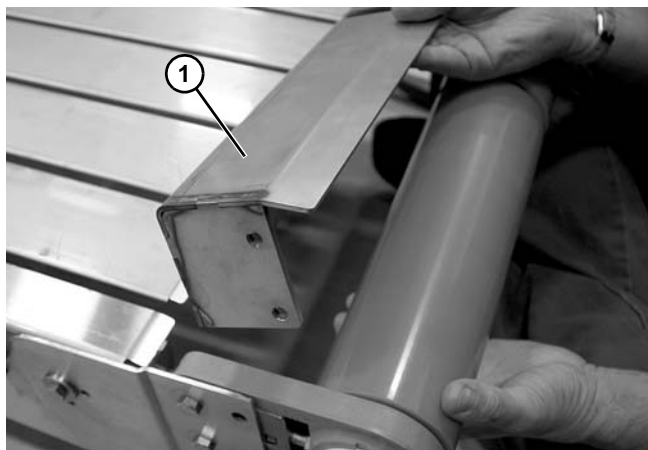

Figure 81
3. Remove support bracket (Figure 81, item 1).